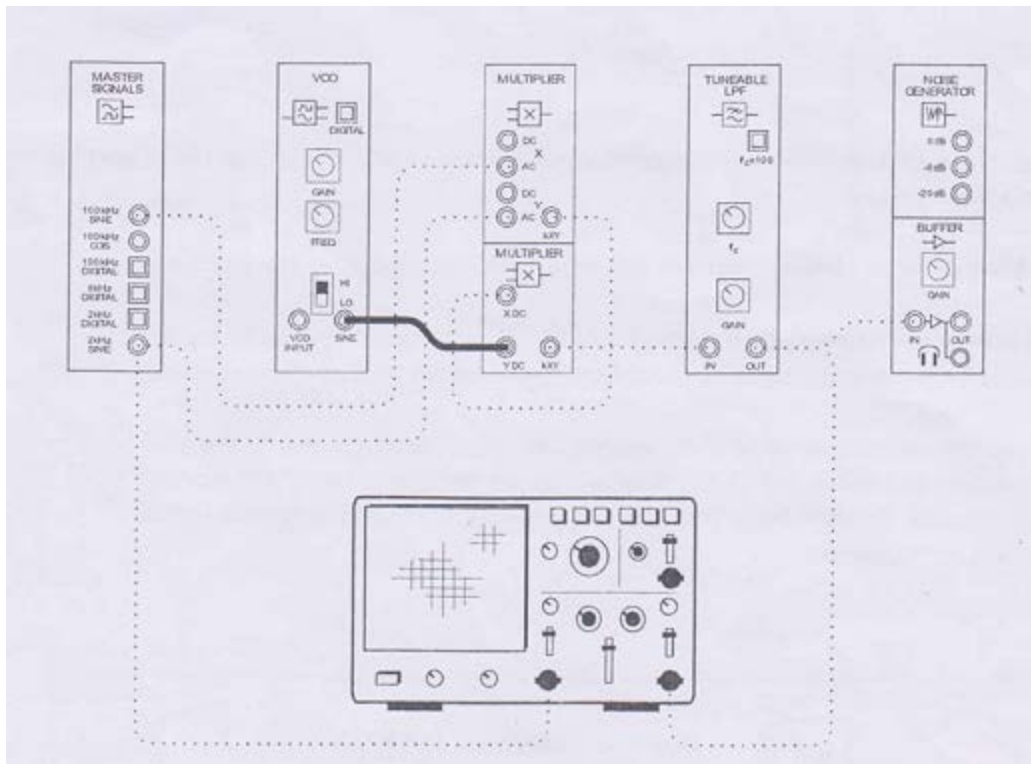

Figure:12
35. Modify the set-up as shown in Figure 12 below.